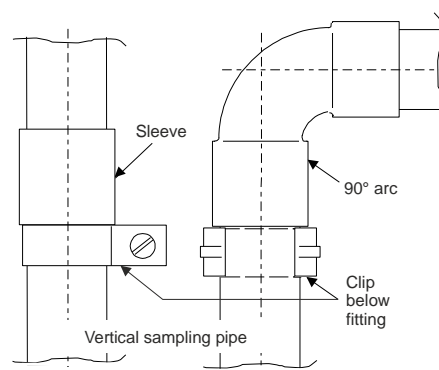

Fig. 35 Vertical sampling pipe
- If the sampling pipe or parts thereof are laid out vertically (e.g. in a riser), make sure the tubes cannot slide down (secure clips directly below the fittings as shown in Fig. 35).